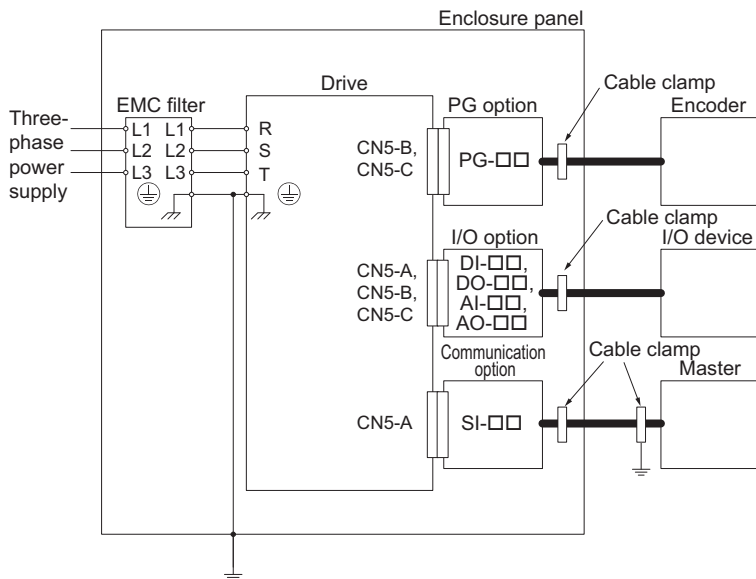

Figure 32 Option Installation for CE Compliance (PG-□□, DI-□□, DO-□□, AI-□□, AO-□□, SI-□□)
2. Keep wiring as short as possible and ground the largest possible surface area of the shield to the metal panel according to Figure 32.